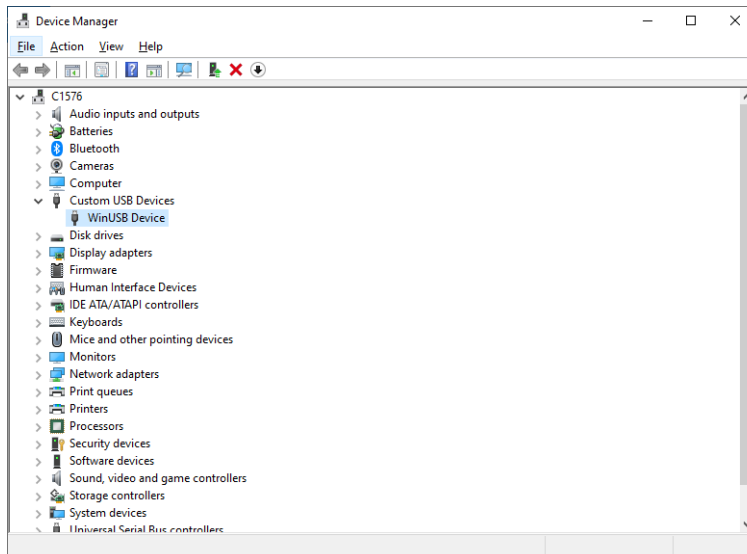

Fig. 11.13: USB device correctly recognized.
- The device is recognized by the operating system and listed in the "Device Manager" window among "Custom USB Devices" (see **Fig. 11.13**).